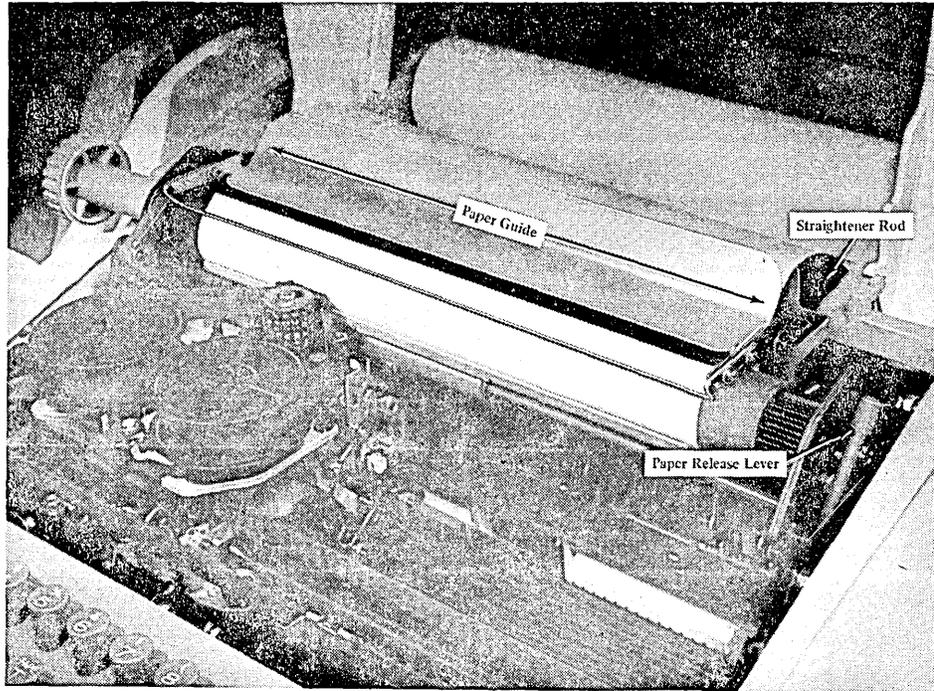

Figure 11. Type 33 ASR Paper Insertion and Movement Controls
3. Tilt the paper release lever forward (Figure 11), raise the paper guide, and pull the remaining paper out from under the platen.